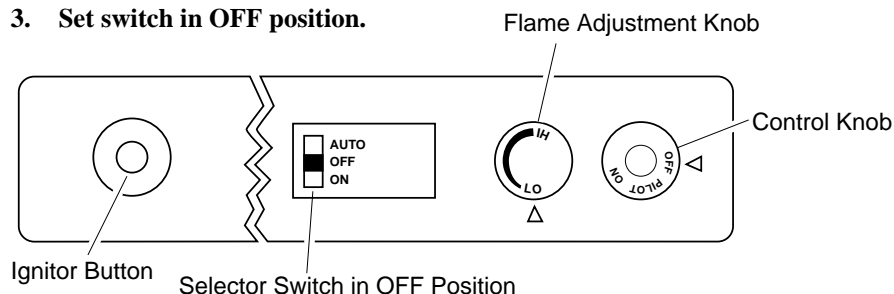

Figure 19 - Control Knob and Ignitor Button Location (Shown as Supplied, No Control Options)
5. Wait five (5) minutes to clear out any gas. Then smell for gas, including near the floor. If you smell gas, **STOP!** Follow "B" in the safety information. If you don't smell gas, go to the next step.
6. Press in and turn control knob counterclockwise to the PILOT position. Press in control knob for five (5) seconds (see Figure 19).